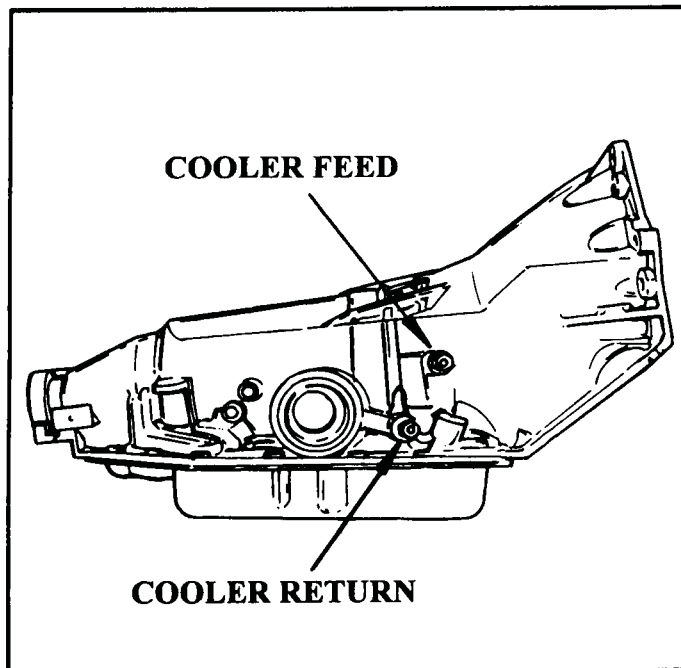

Figure 3
3. The cooler feed and cooler return fittings are identified in Figure 3.